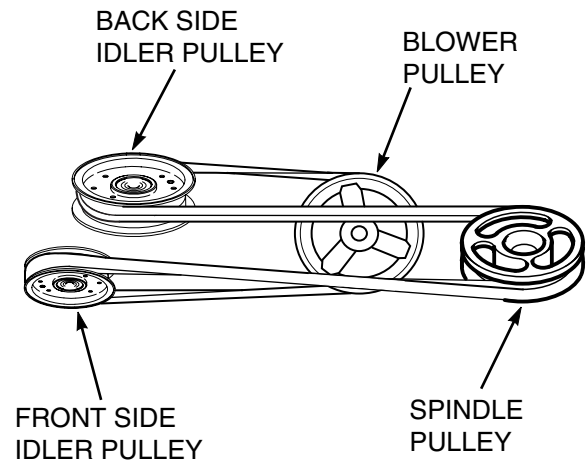

Figure 2-6. Belt Routing
13. Install the belt to the spindle pulley. When replacing the belt. See Figure 2-6.